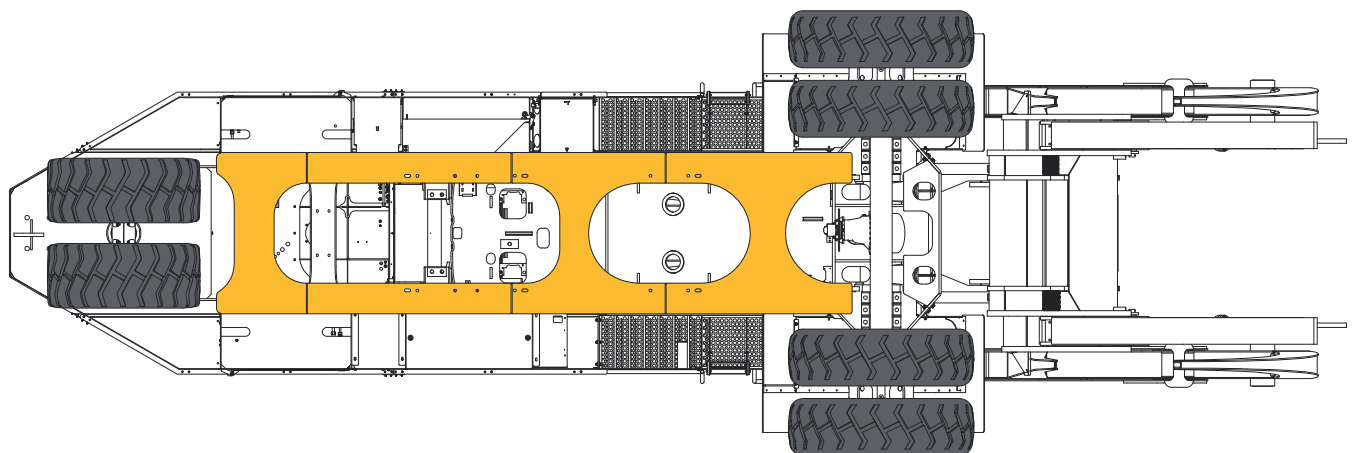

Figure 1 Jacking Locations, L120
4. See Figure 1. Jacks and jack stands may be placed anywhere on the bottom 1" steel plate highlighted in yellow. Use pads (anti slip material) that are minimum 4" x 4" in size between jack and Logstacker to prevent damage.